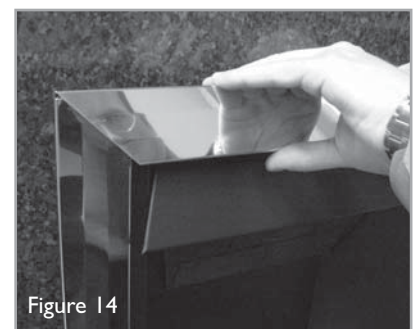

Figure 14
**Three-piece frame models :** The clip-on frame pieces should be hooked over the outer edges of the fireframe, (figure 14), and pushed firmly home. The sides should be fixed first, followed by the top bar, which overlaps the sides. Push firmly home.